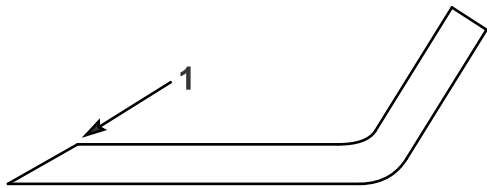

Figure 39
1. Use a file to sharpen the cutting edge at both ends of each blade (Figure 39). Maintain the original angle. The blade retains its balance if you remove the same amount of material from both cutting edges.